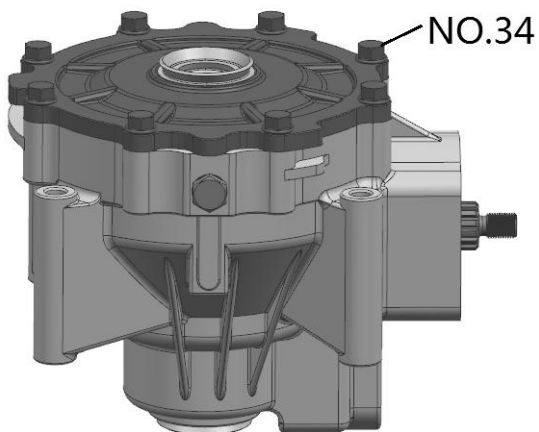

**Fig 4**
5.Remove Bolts M8×25 (NO.34) that secure the housing. →Fig 4